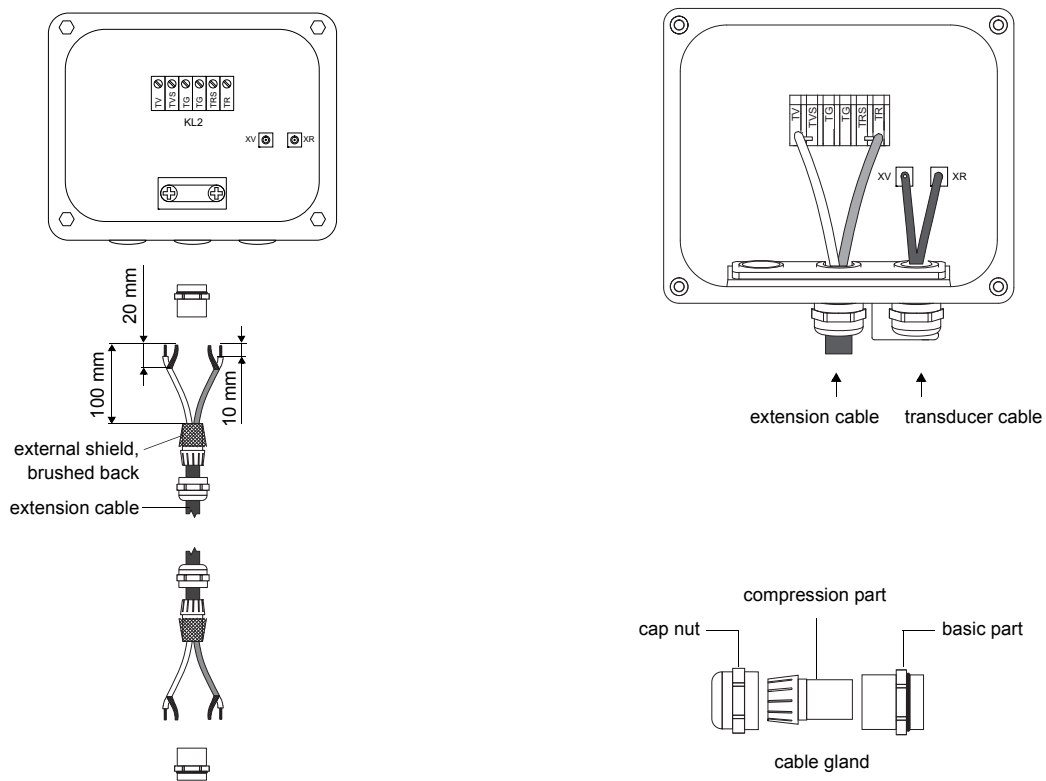

Fig. 6.20: Connection of the extension cable to the junction box
- Remove the blind plug for the connection of the extension cable (see Fig. 6.20).
- Connect the extension cable to the terminals of the transmitter (see Fig. 6.20 and Tab. 6.16).